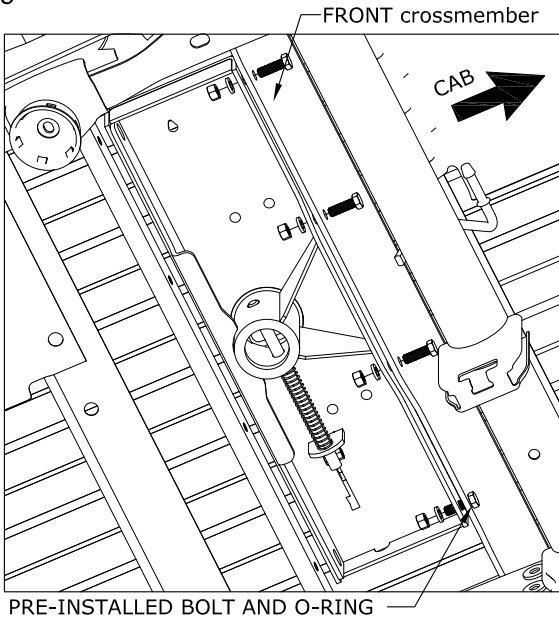

Figure B10: View under the center section looking from in front of the axle on the passenger side.
5. **Attach the front crossmember to the center.** Slide the front crossmember back against the center section so that the bolt installed previously in the front crossmember goes into the center section hole directly across from it. Line up the rest of the holes and attach the two members with  $\frac{1}{2}$  X  $1\frac{1}{2}$ " long bolts, lock washers, and nuts as shown in Figure B10. Hand tighten nuts.